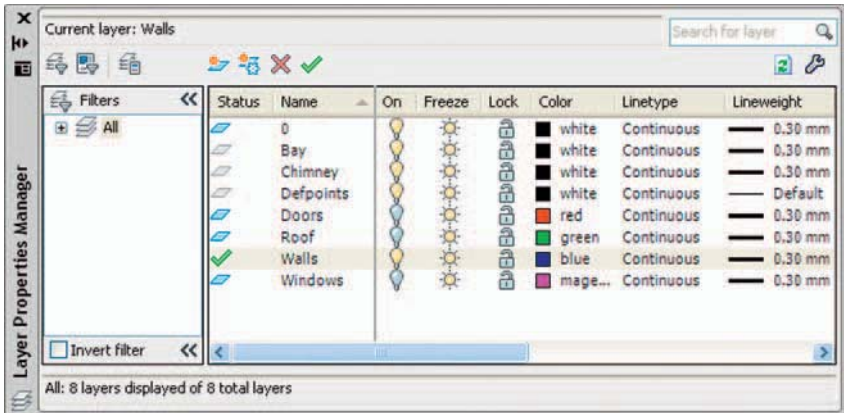

Fig. 16.9 First example – the layers on which the model is to be constructed
- 1. In the **Layer Properties Manager** palette – **Doors** (colour red), **Roof** (colour green), **Walls** (colour blue), **Windows** (colour magenta) (Fig. 16.9).